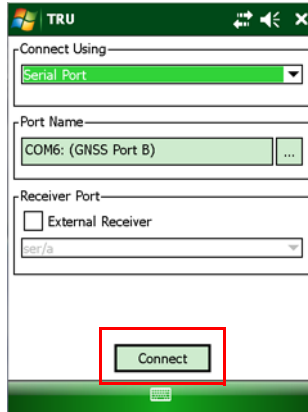

Figure 4-2. TRU – Connection Parameters Window
4. In the **Connection Parameters** window (Figure 4-2), do the following: